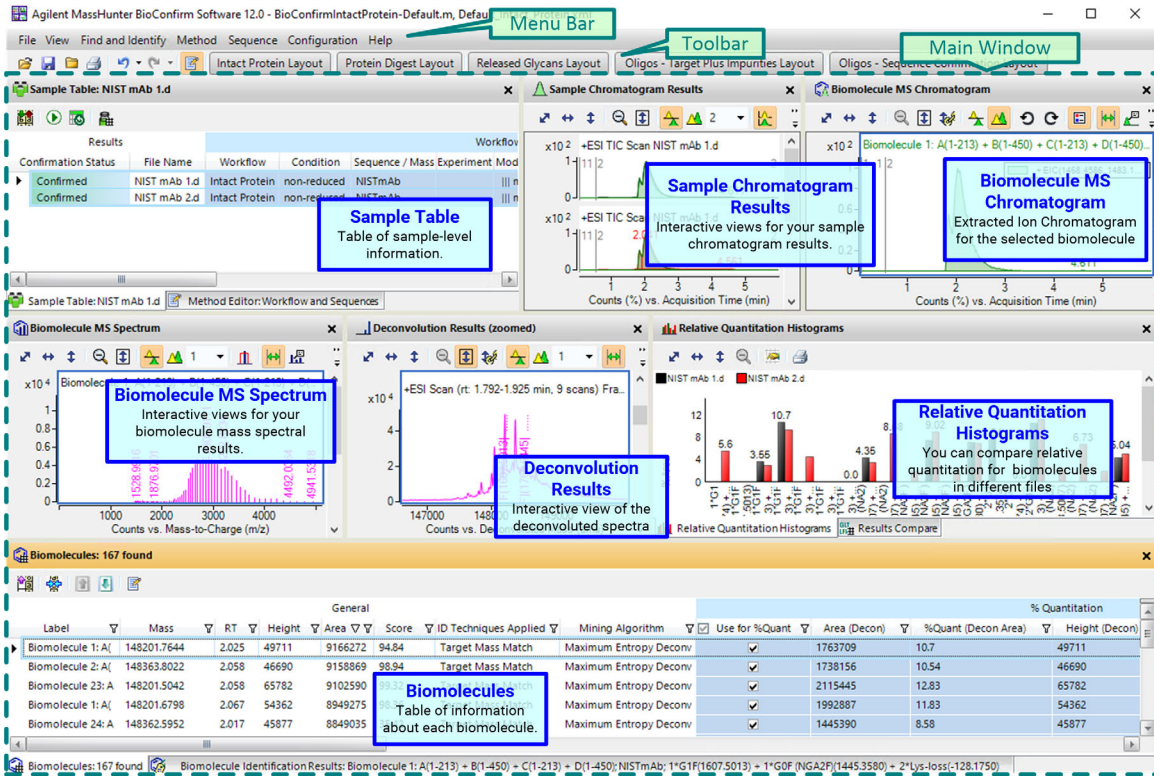
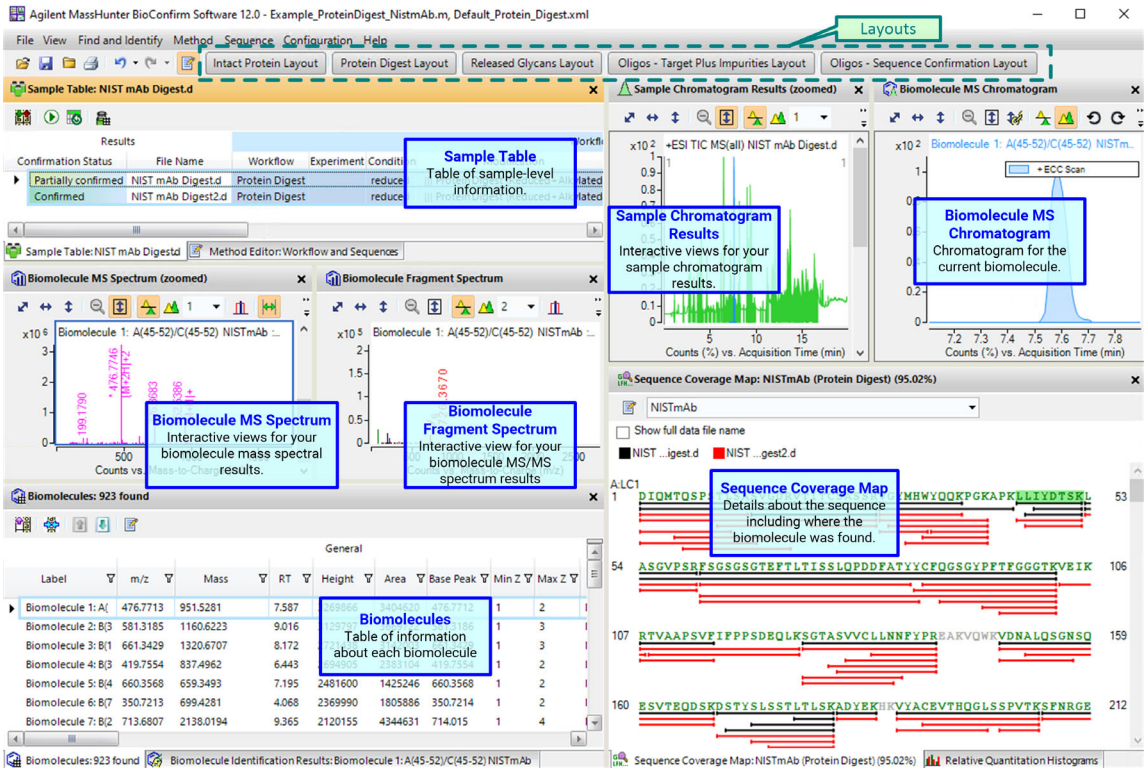
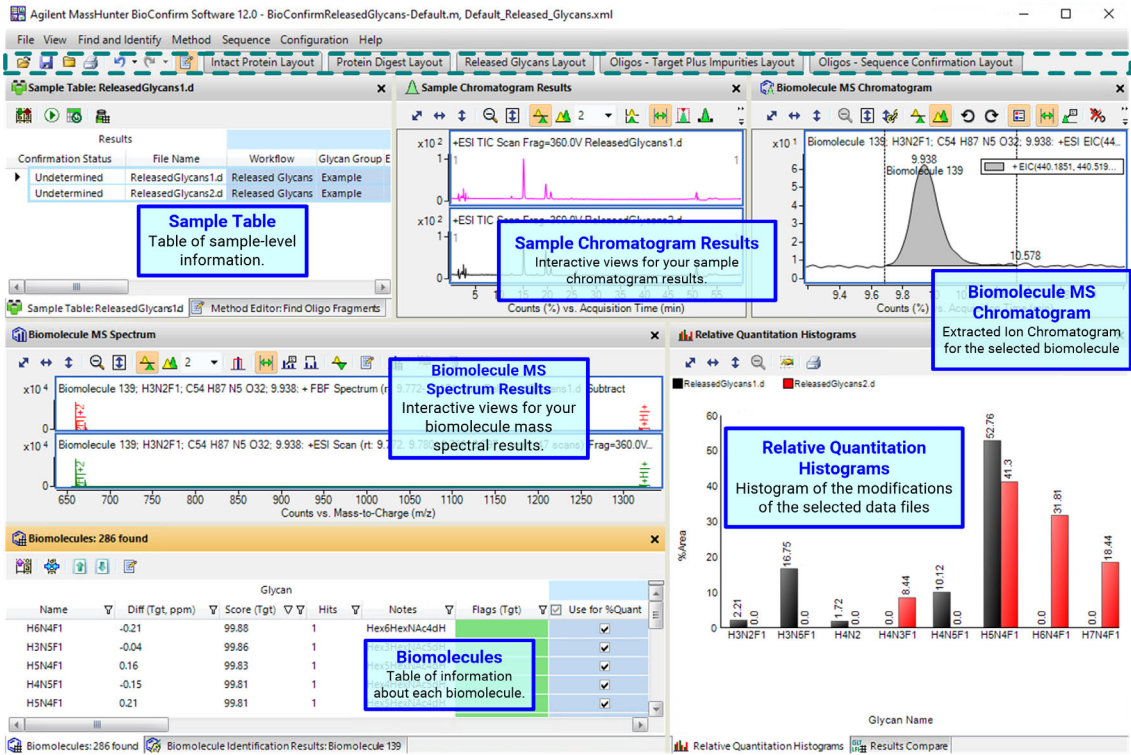

Figure 1. The main functional areas of BioConfirm for an Intact Protein analysis
Figure 2. The main functional areas of BioConfirm for a Protein Digest analysis
Figure 3. The main functional areas of BioConfirm for a Released Glycans analysis
The main BioConfirm window consists of three parts: (1) the Menu Bar, (2) the Toolbar, and (3) the Main Window. The main functional areas are shown in **Figure 1**, **Figure 2** on page 114, and **Figure 3** on page 115. Some windows are not shown because they are not in the default layout.
The main window, see **Figure 2** on page 114, is further divided into many windows: Sample Table, Method Editor, Method Audit Trail, Results Audit Trail, Chemical Data Dictionary Audit Trail, Sample Chromatogram Results, Spectrum Preview, Biomolecule MS Chromatogram, Biomolecule MS Spectrum, Biomolecule Fragment Spectrum, Deconvolution Results, Deconvolution Mirror Plot, MS Spectrum Mirror Plot, Fragment Spectrum Mirror Plot, Biomolecule Chromatogram Mirror Plot, Sample Chromatogram Mirror Plot, MS Actuals, Biomolecules, Biomolecule Identification Results, Results Compare, Relative Quantitation Histograms, Sequence Coverage Map, Fragment Confirmation Ladder, Peptide Relative Quantitation Results, Glycan Structure Viewer, and Oligos - Impurity List. For most of these windows, you toggle whether these windows are visible in the **View** menu.